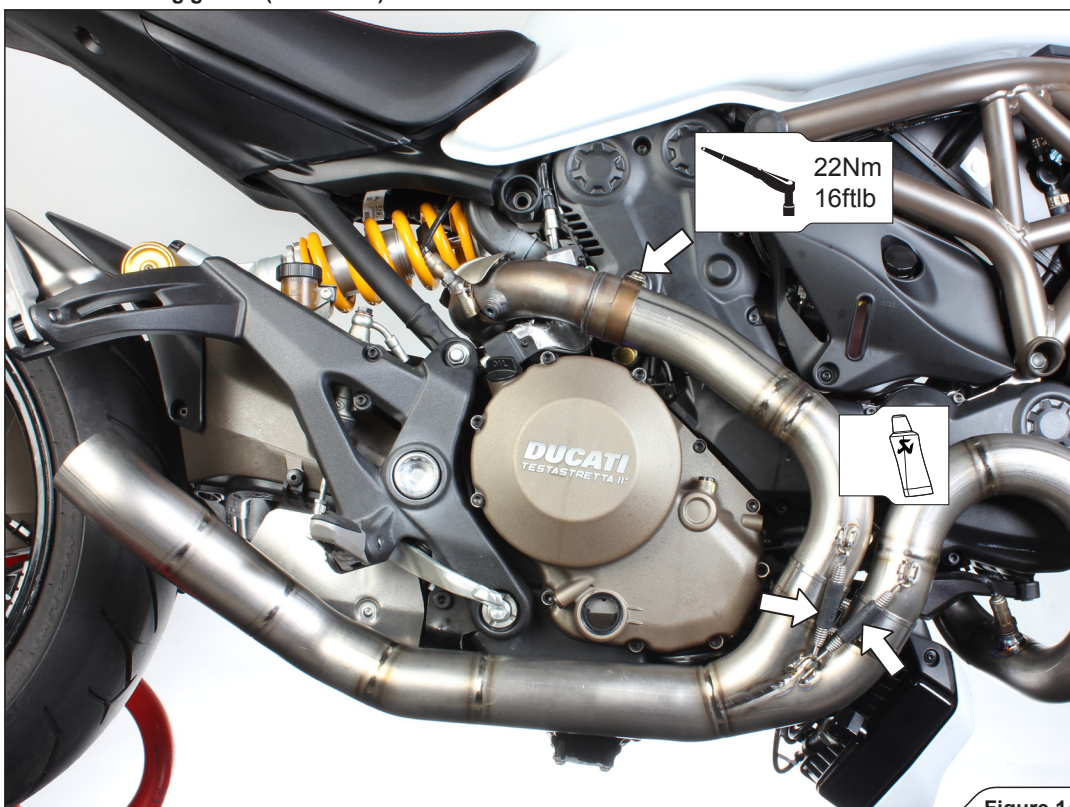

Figure 14
- Slide the link pipe onto the headers, attach the springs and tighten the stock clamp (Figure 14).